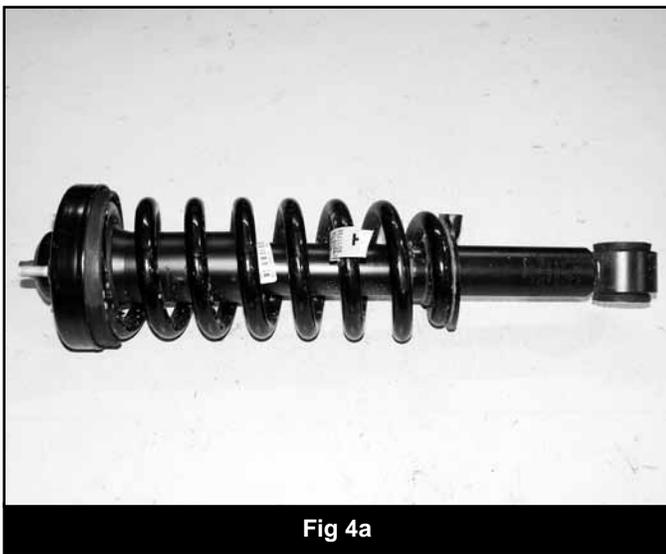

Fig 4a
12. Place alignment marks on the upper strut mount, isolator, spring, strut body and lower coil seat for reference when the strut is reassembled (Fig 4A, B, C).